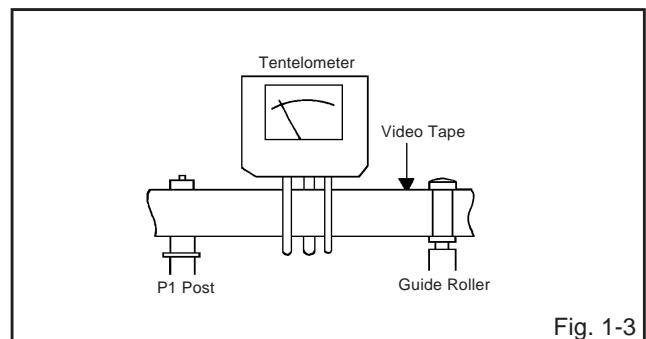

Fig. 1-3
2. Install the tentelometer as shown in **Fig. 1-3**. Confirm the value is within 20~27gf at this time.